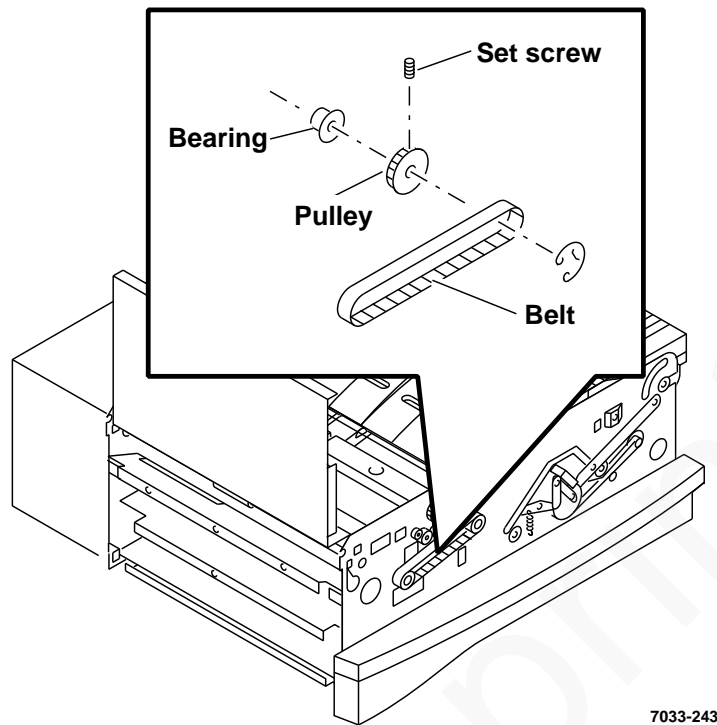

Figure 16. Front belt, pulley, and bearing removal
- d. Loosen set screw in pulley (Figure 16), and remove pulley.